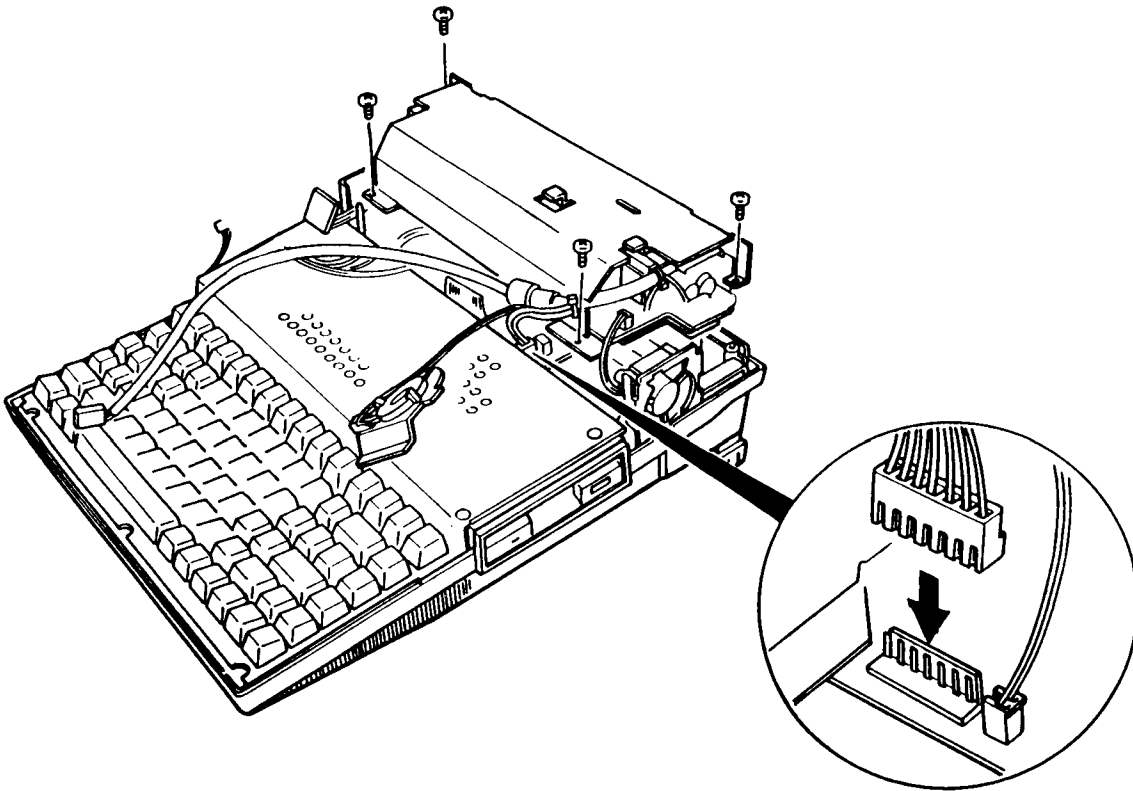

FIGURE 2-3 Power Supply Unit Connector
4. If the power supply connector (PJ 5) on the system board pictured in figure 2-3 is connected properly, go to PROCEDURE 3. If it is not connected properly, reconnect it.